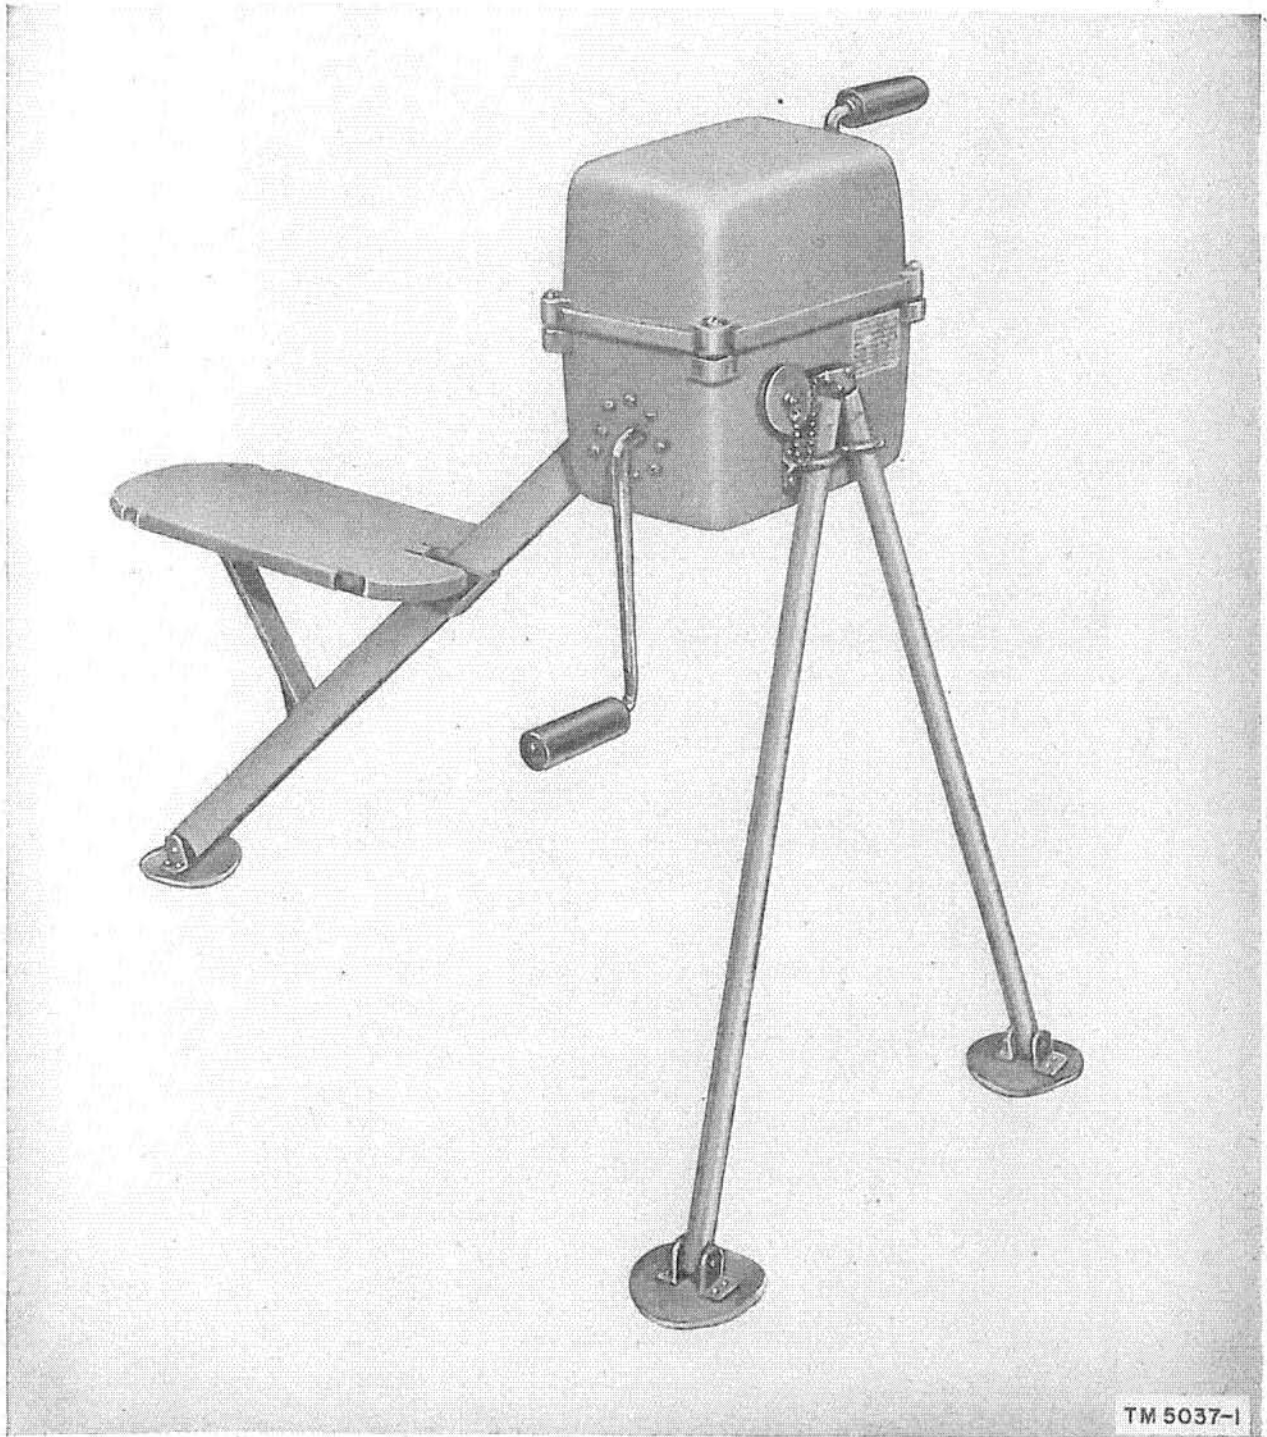

Figure 76. Generator G-8/GRC.
a. GENERATOR G-8/GRC (fig. 76). Generator G-8/GRC is a hand-powered power source. It consists of a generator unit with cranks and mounting legs (fig. 76). Complete details on the generator are published in a separate manual.